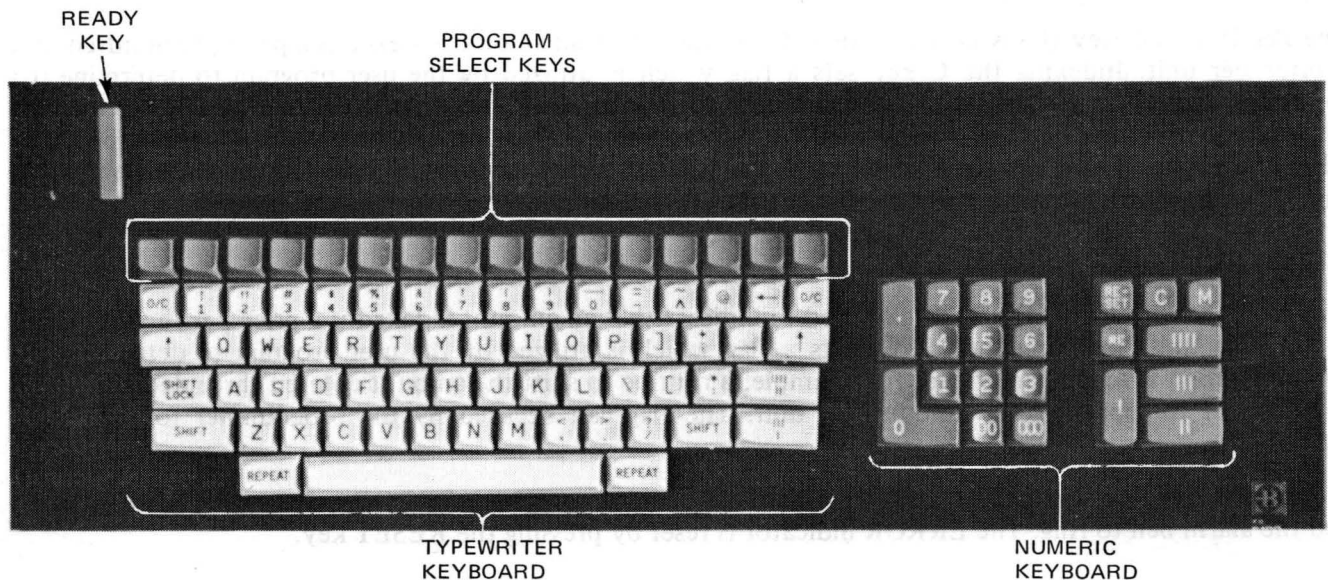

Figure 3-1. AE500 Keyboard
The numeric keyboard shown in figure 3-1 consists of 12 numeric keys, a decimal point (.) key, RESET key, per hundred (C) key, per thousand (M) key, reverse entry (RE) key and four operation control keys (OCK's).